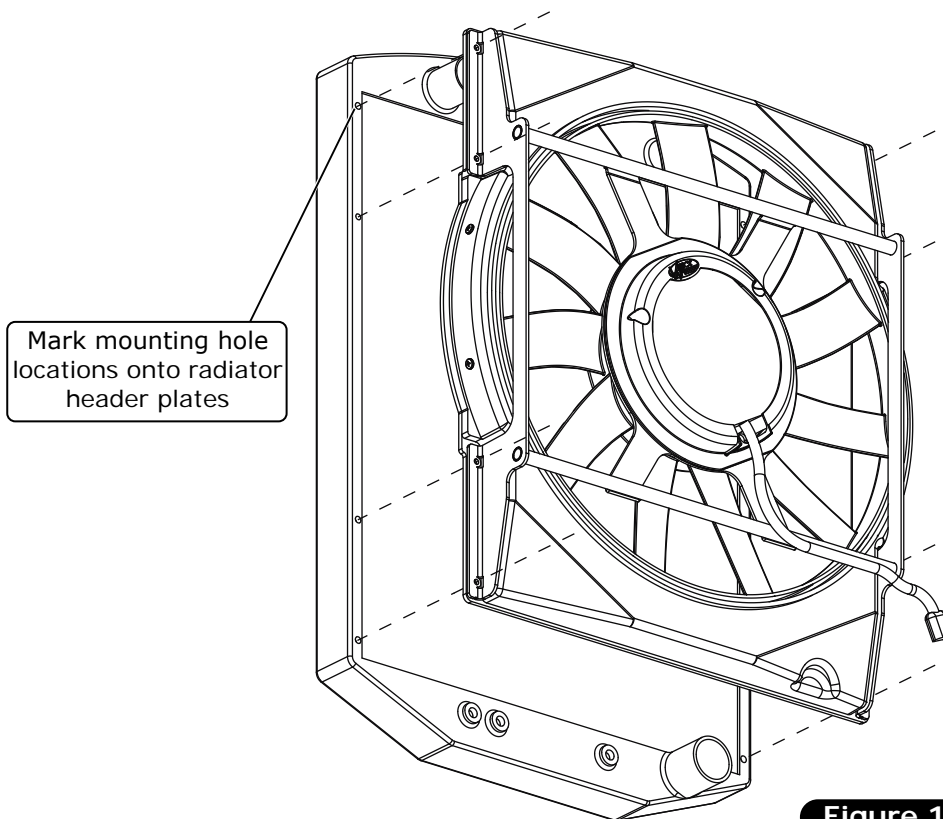

Figure 1
2. Align the assembly onto the radiator header plates and mark the mounting hole locations (See Figure 1, below).